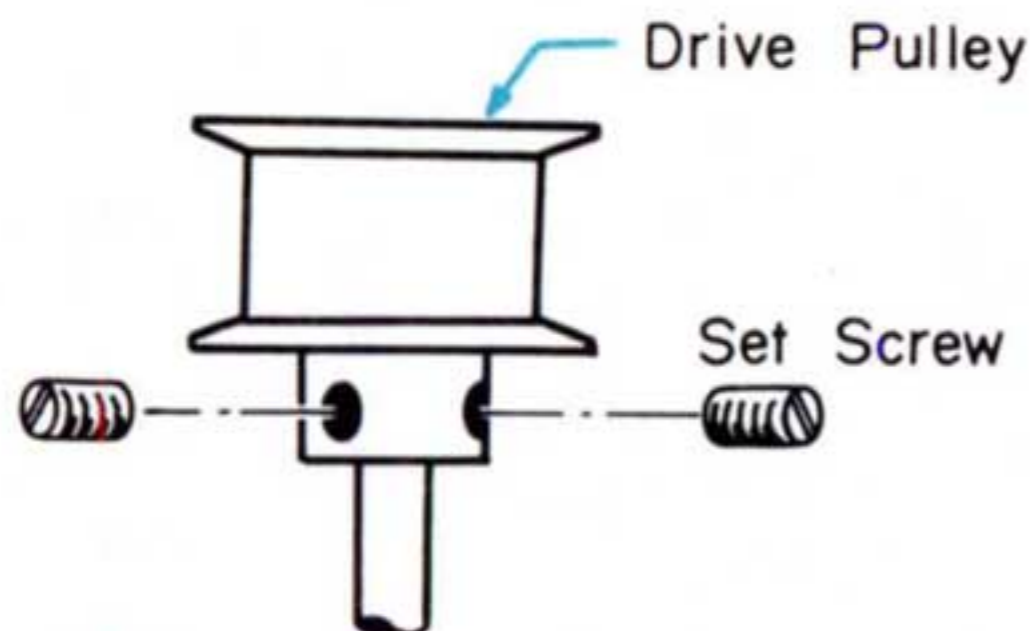

Fig. 2-11 Removal of Drive Pulley
3. Remove the drive pulley from the motor shaft by loosening the two set screws as shown in Fig. 2-11. Pull off the pulley, to reinstall see pulley height adjustment. See section 3-8.